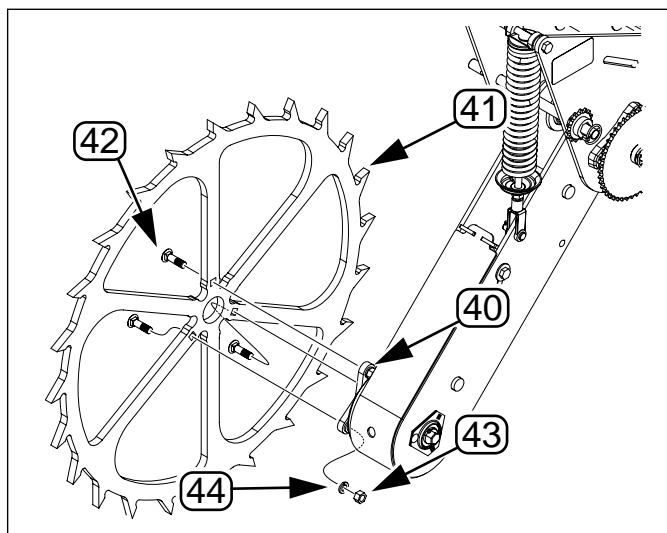

Figure 97
**Refer to Figure 97**
- (41) 407-473D GROUND DRIVE WHEEL